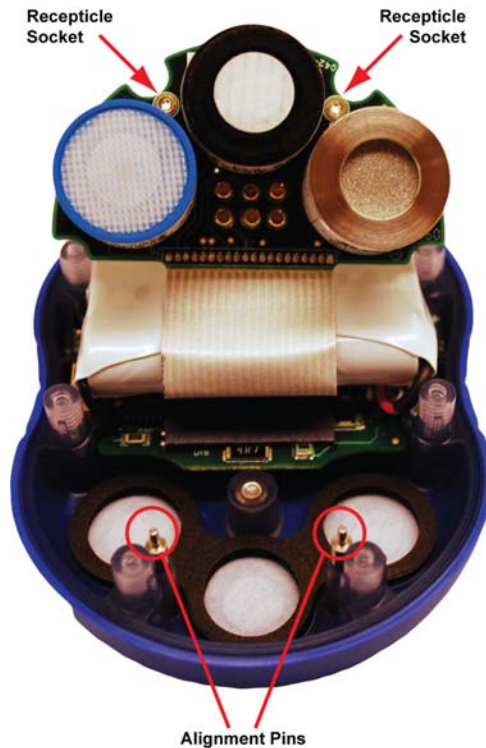

Figure 5-3. Pin Alignment
- 6) Rotate PC board back to its original position aligning the 2 pins to their receptacle socket. Refer to Figure 5-3.